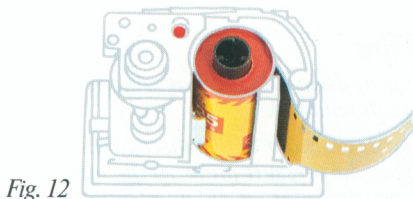
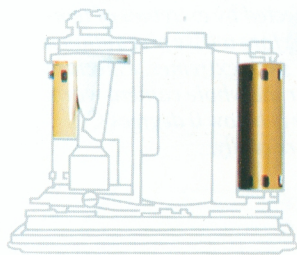

Fig. 12
Fig. 15
- Place the cassette in the insert as shown in fig. 12.
- Wind the grey-edged transport wheel about one turn of the take up spool (fig. 15). When the wind-on stops, depress the red knob (fig. 12) and release. Then turn the transport wheel again until it locks.
See also: Long Time Release (fig. 15), self timer (fig. 16), shutter release through handgrip system (accessory) and remote release (accessory).